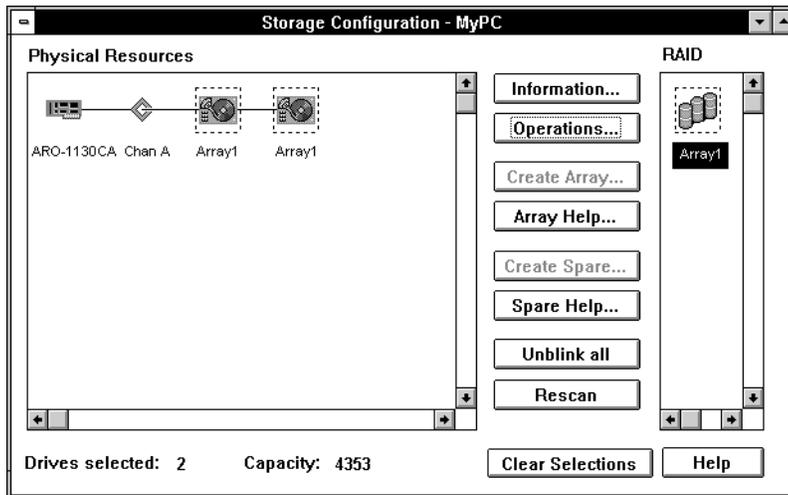

Figure 3-1. Storage Configuration Window
- 1 Start Adaptec CI/O Management Software and open the Storage Configuration window, as described in *Starting the Program* on page 3-2. This window looks similar to the one shown in Figure 3-1.